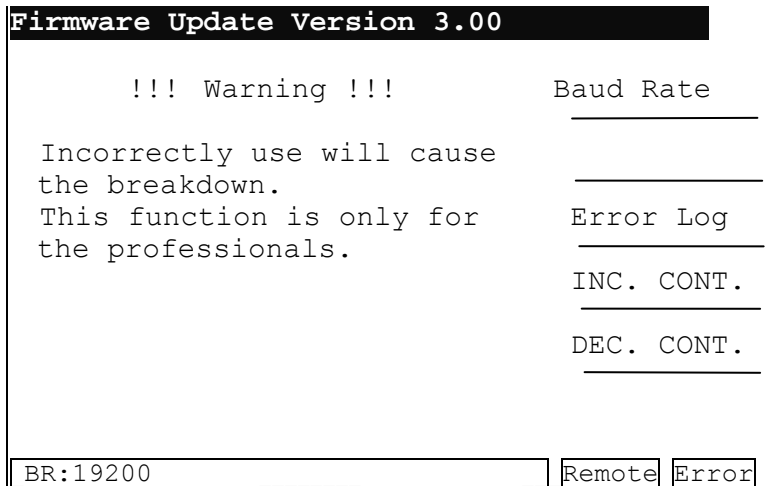

Figure 7-1
3. When the analyzer powered on, LCD as Figure 7-1 shown: